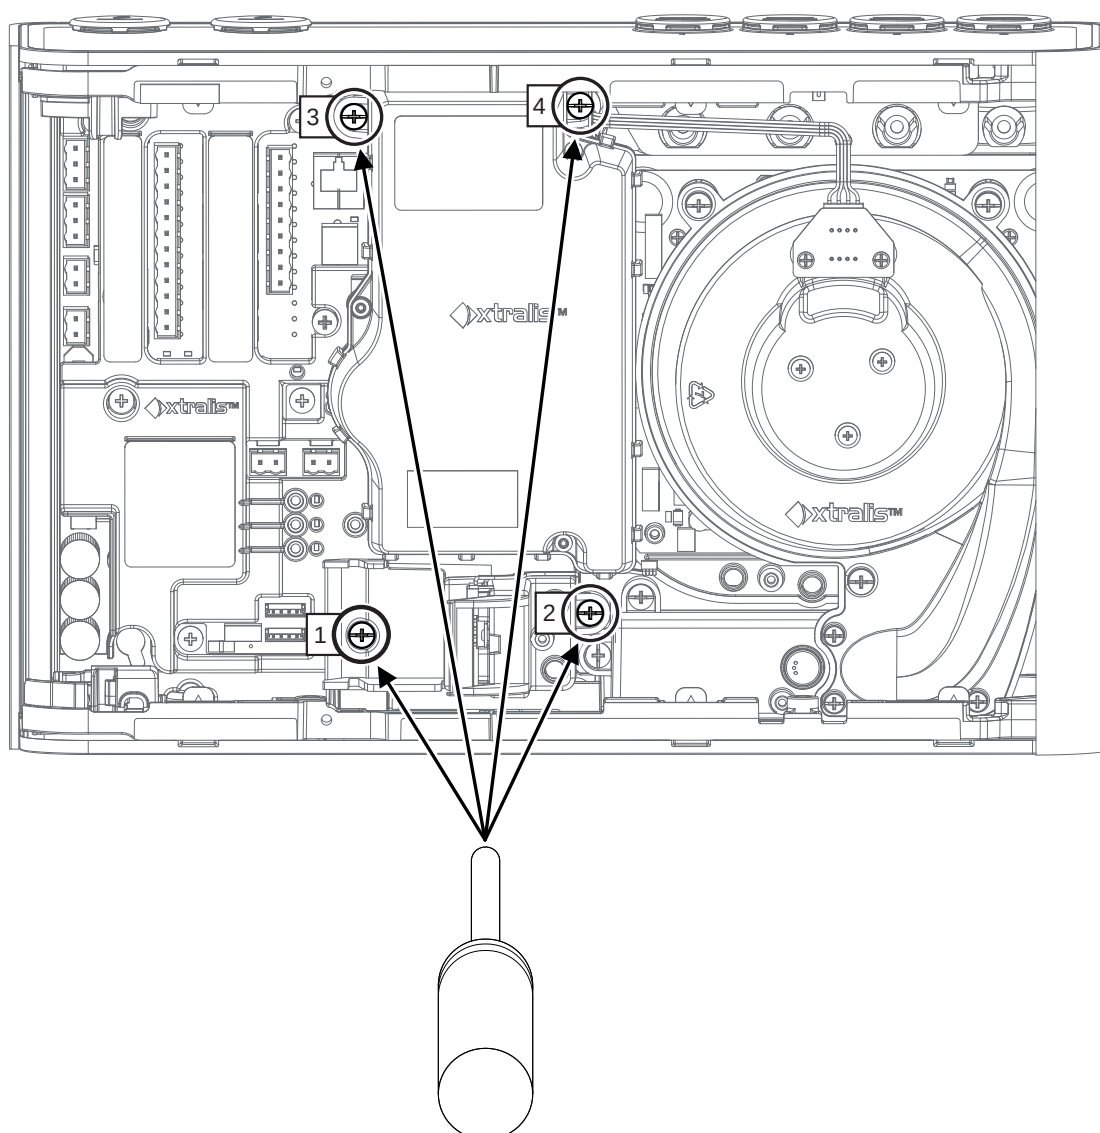

Figure 7-10: Undo Chamber retaining screws
3. Remove the four screws holding the chamber to the detector base (Figure 7-10).
4. Secure the four screws which hold the chamber to the detector base (Figure 7-10).